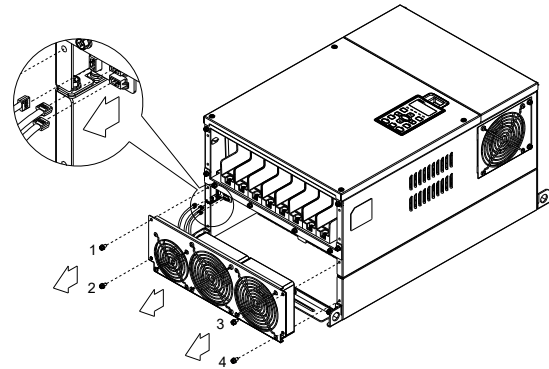

Figure 2
1. Loosen screw 1~4 (figure 2) and disconnect fan power and pull out the fan. (As shown in the enlarged picture 3) Screw1~4 Torque: 24~26 kg-cm / [20.8~22.6 lb-in.] / [2.4~2.5 Nm]